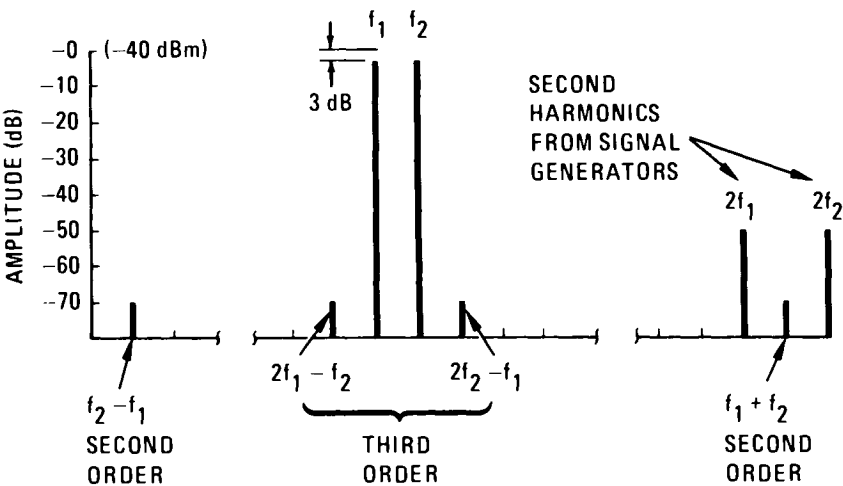

Figure 4-6. Intermodulation Distortion Products
3. Reduce SCAN WIDTH PER DIVISION to 50 kHz, keeping the signals centered with FINE TUNE. Adjust the signal generators so that the signals are separated by 50 kHz (one division) and are 3 dB below the LOG REF graticule line (see Figure 4-6).